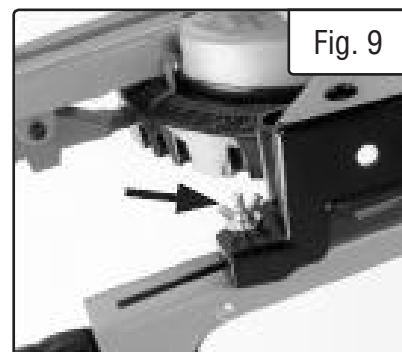

Fig. 9
5. Hook the front of the brackets over the front of the miter stand's main frame (Fig. 9).